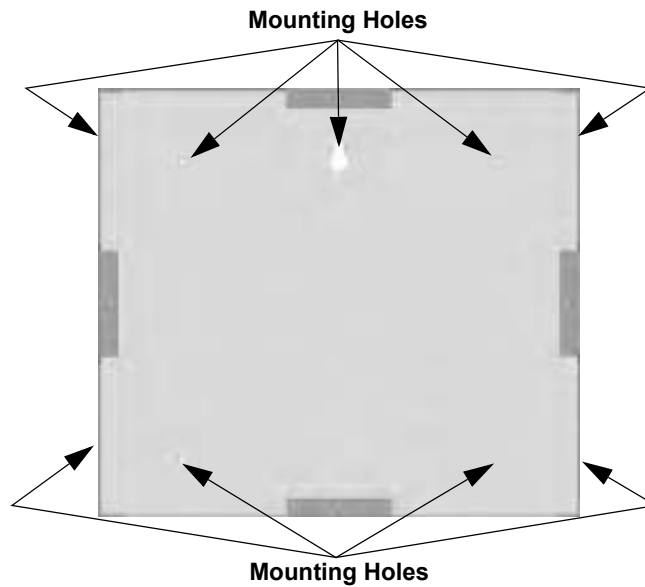

Figure 4-11 Back Box Mounting Holes
1. The back box dimensions are 9 9/32" W x 8 3/8" H. The minimum depth required is 2". The back box can be mounted prior to the complete installation of the RA-2000 using any of the mounting holes shown in Figure 4-11.